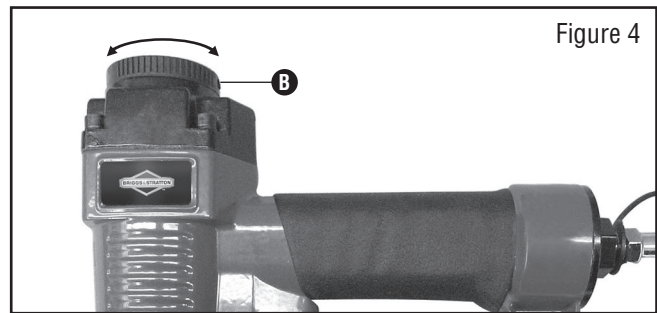

Figure 4
NOTE This tool features an air deflector (B) which can be rotated 360 degree by turning either clockwise or counter-clockwise to deflect air at any desired direction. (See Figure 4)